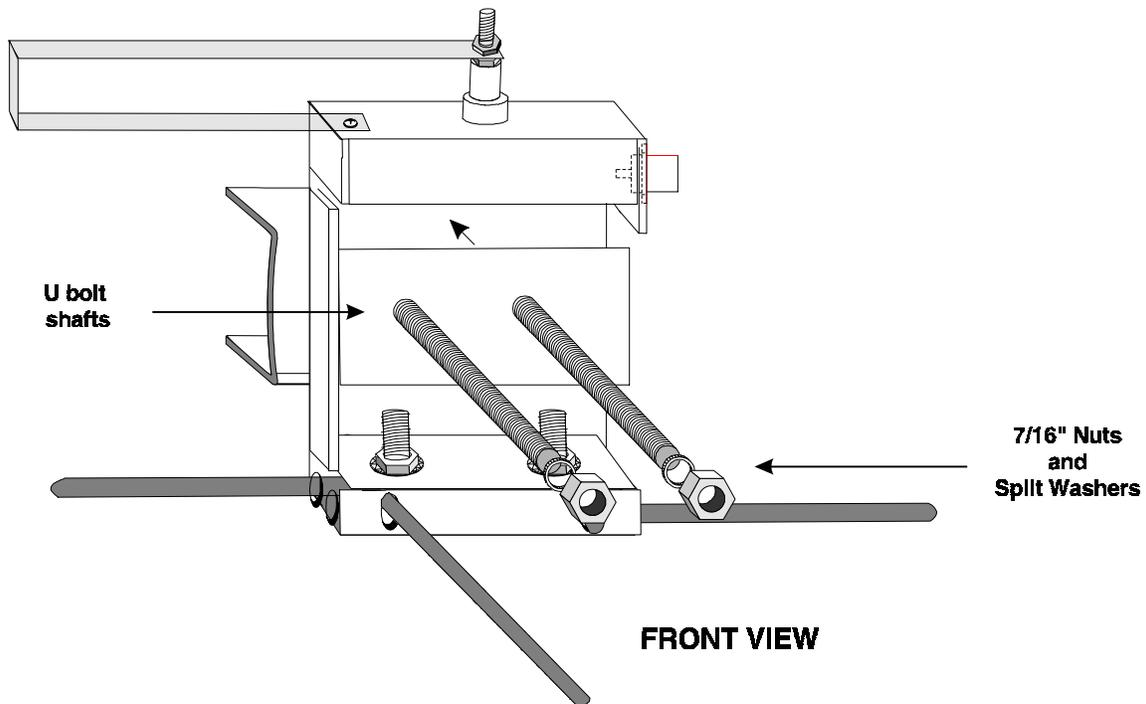

Figure 8 Final antenna assembly.
- D. Install the other fiberglass plate through the U bolt from the front of the antenna base. Place the lock washers over the U bolt and hand thread the nuts on the bolt. Tighten the nuts securely with the 7/16" open end wrench to ensure that the antenna does not slip. Do not over tighten. See Figure 8.